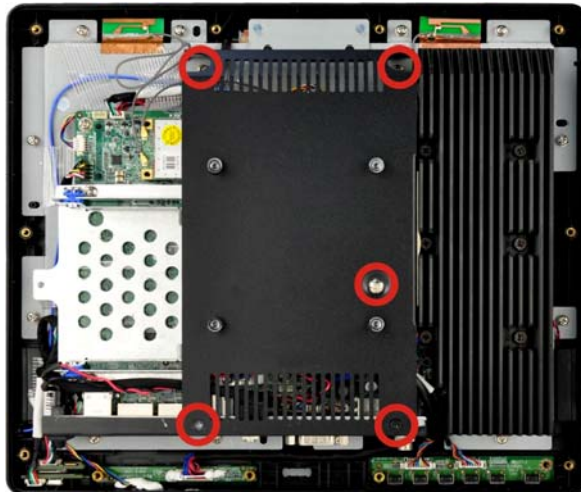

Figure 3-6: Internal Cover Retention Screws
Step 2: Remove the five (5) retention screws securing the internal cover to the chassis (**Figure 3-6**).